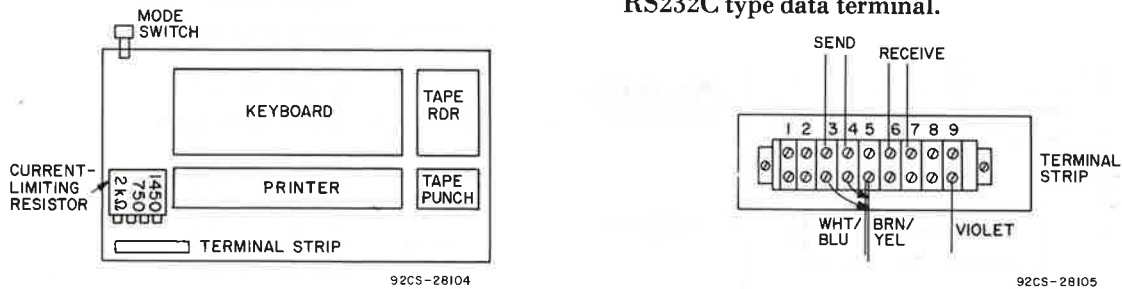

Fig. B1 - Location of and connections to terminal strip for Model 33 Teletype data terminal showing connections for 20-mA full-duplex operation.
1. Locate the black terminal strip in the back. See Fig. B1.